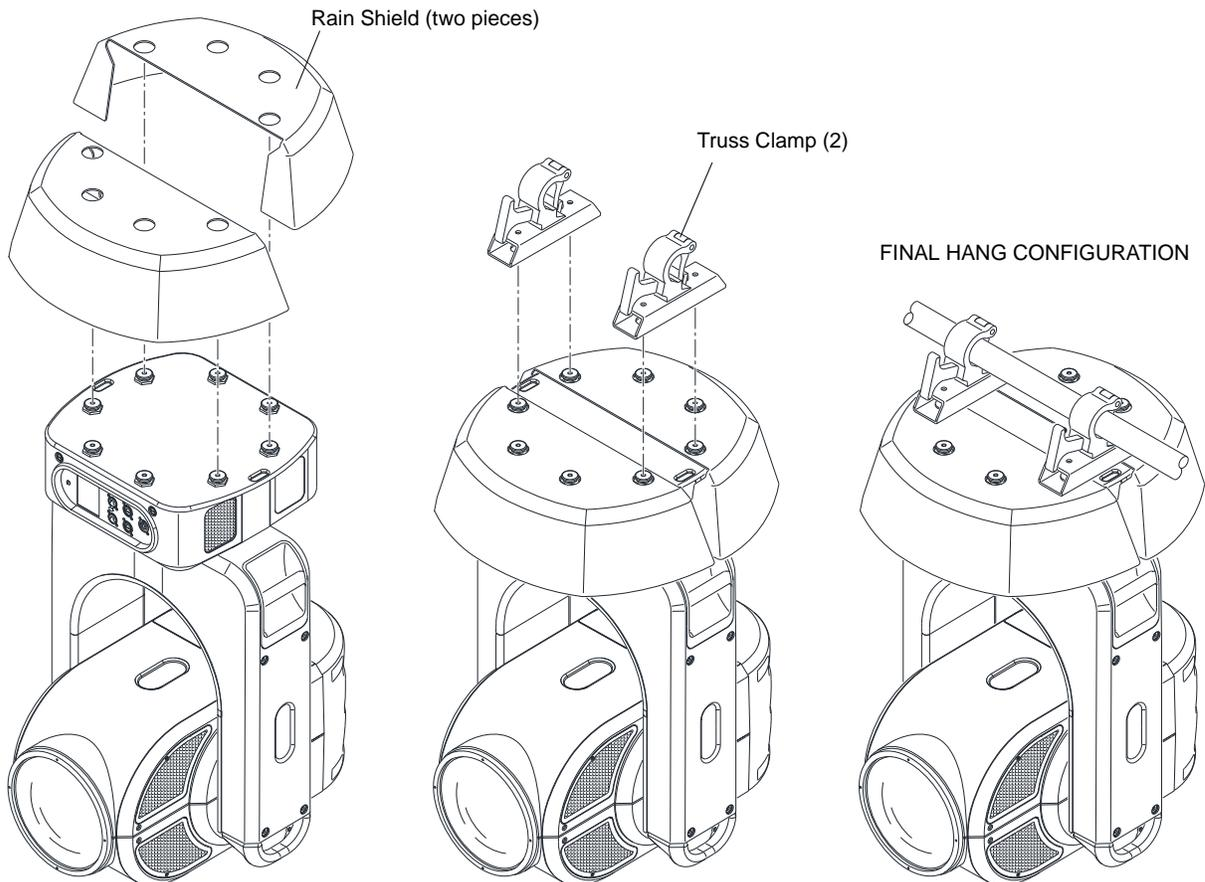

Figure 2: Installing Hanging Rain Shield 1
- Step 2. Install two halves of rain cover (10.9812.0030) as shown in **Figure 2**.